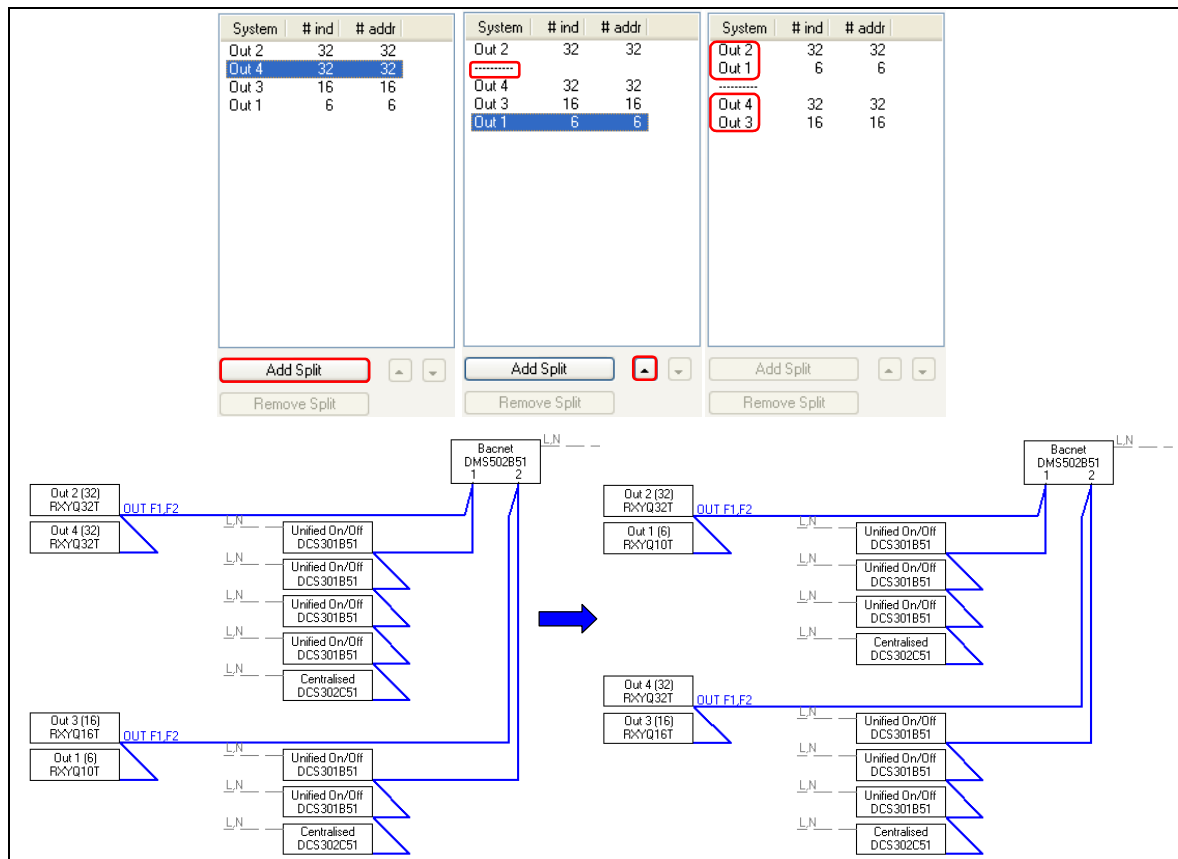

Figure 84: Overruling the default wiring diagram (making other clusters)
At the right of the wiring diagram, VRV\_Xpress shows the sorted outdoor units. The bottom of this list contains commands to edit this list. Figure 84 shows how to reorganize the original order by adding splits and moving outdoor units:
3. While performing those command, VRV\_Xpress automatically recalculates the wiring diagram, creating new diagrams after each step. Figure 84, at the bottom right shows the final diagram.